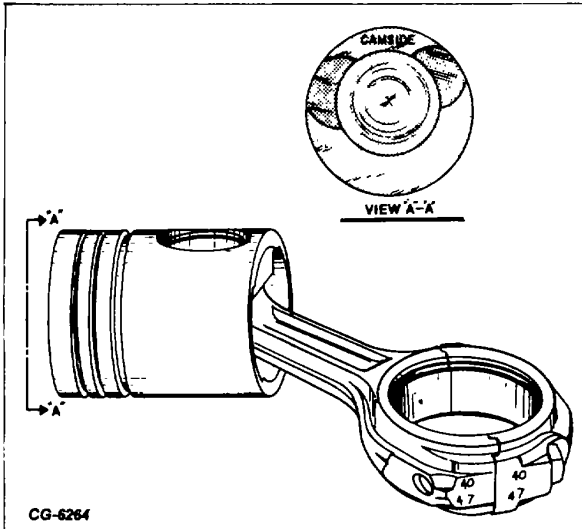

Figure 33. - Connecting Rod and Piston Marking in Relation to the Camshaft
- 6. Coat the cylinder sleeve generously with clean lubricating oil. Install the compressor, with piston and rod, into the cylinder sleeve. The numbers on the rod must face away from the camshaft while the markings on top of the piston faces toward the camshaft side of the engine as shown in Fig. 33. Push down on the piston carefully until it is in the cylinder sleeve. Avoid striking the sleeve with the connecting rod.